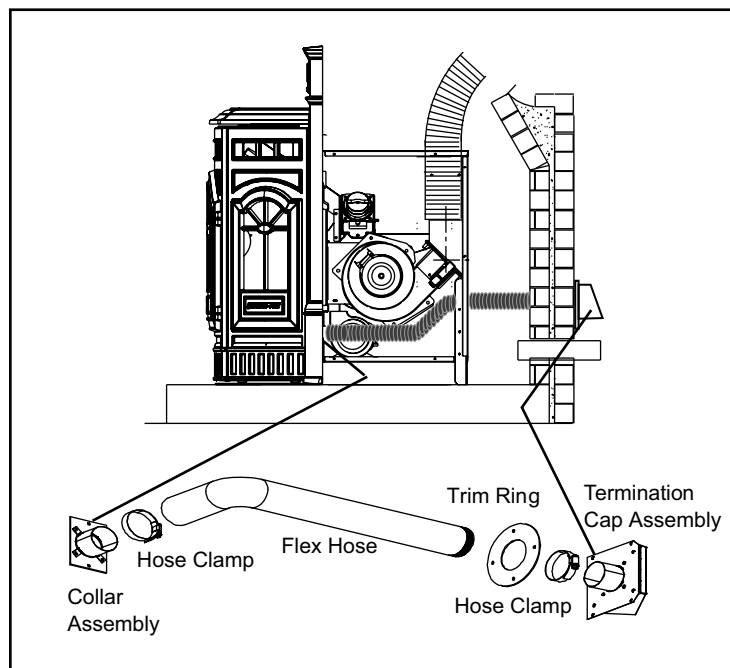

Figure 17.1
1. Attach collar assembly to appliance. **Figure 17.1.** Measure distance from floor to air vent opening in appliance and mark location on wall.